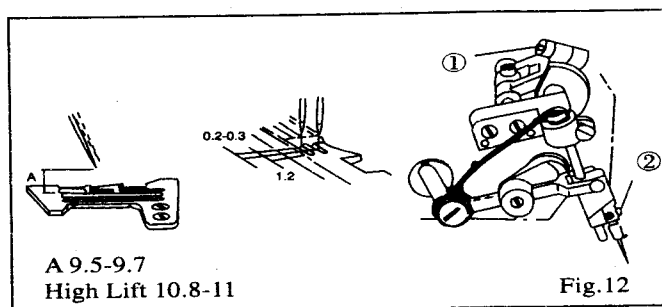

Fig.12
1. Needle and Needle Plate Fig.12